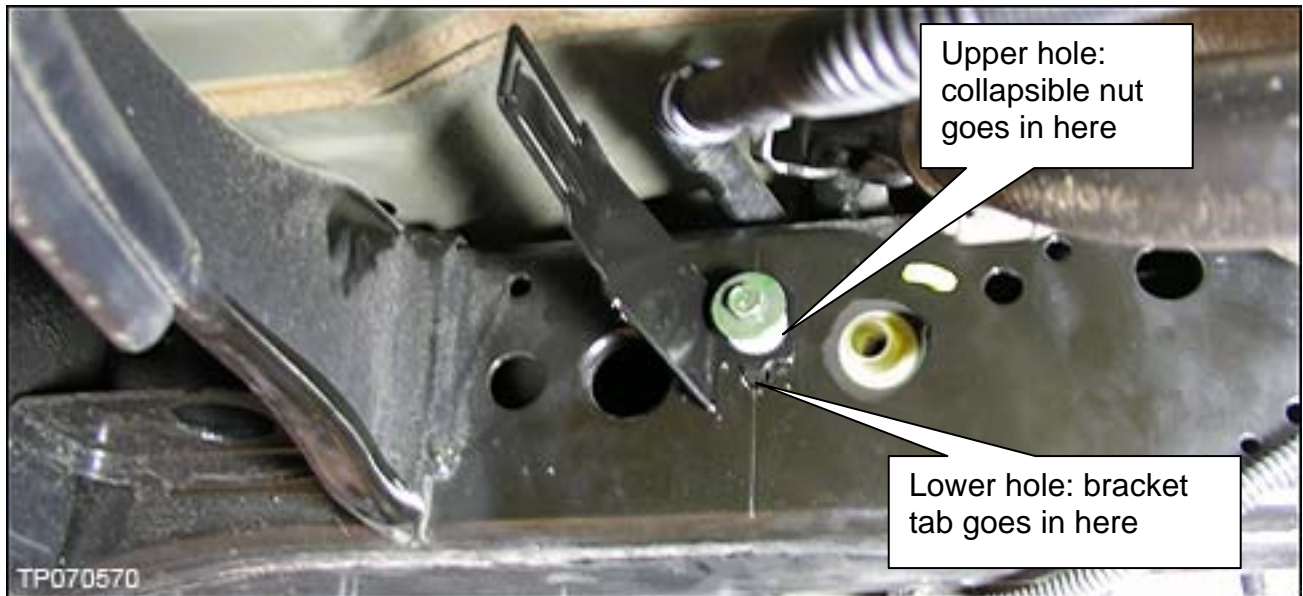

Figure 7
11. Install the bracket on the frame rail (see Figure 7).